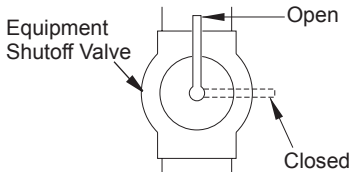

Figure 15 - Equipment Shutoff Valve
1. Close equipment shutoff valve (see Figure 15).
1. Open equipment shutoff valve (see Figure 15, page 17).